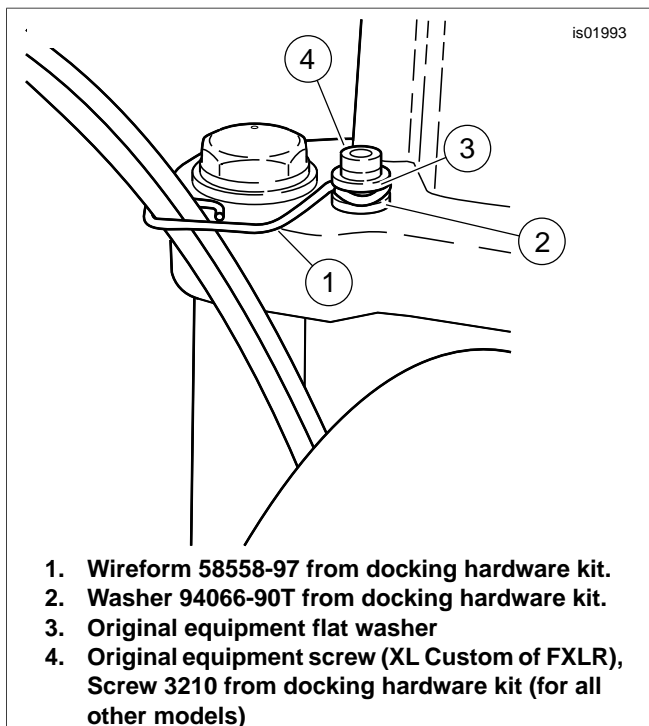

Figure 4. Throttle Cable Attachment (Buckhorn-Style Pullback Handlebars)
For buckhorn-style handlebars, see Figure 4. Use the wireform (1) from the Docking Hardware Kit to secure the throttle cables to the upper fork triple clamp as shown.
- For XL Custom or FXLR models, use the original socket head screw (4) and washer (3) over the wireform, and the washer (2) from the kit underneath.
- For all other models, use the socket head screw (4) from the kit and the original washer (3) over the wireform, and the washer (2) from the kit underneath.